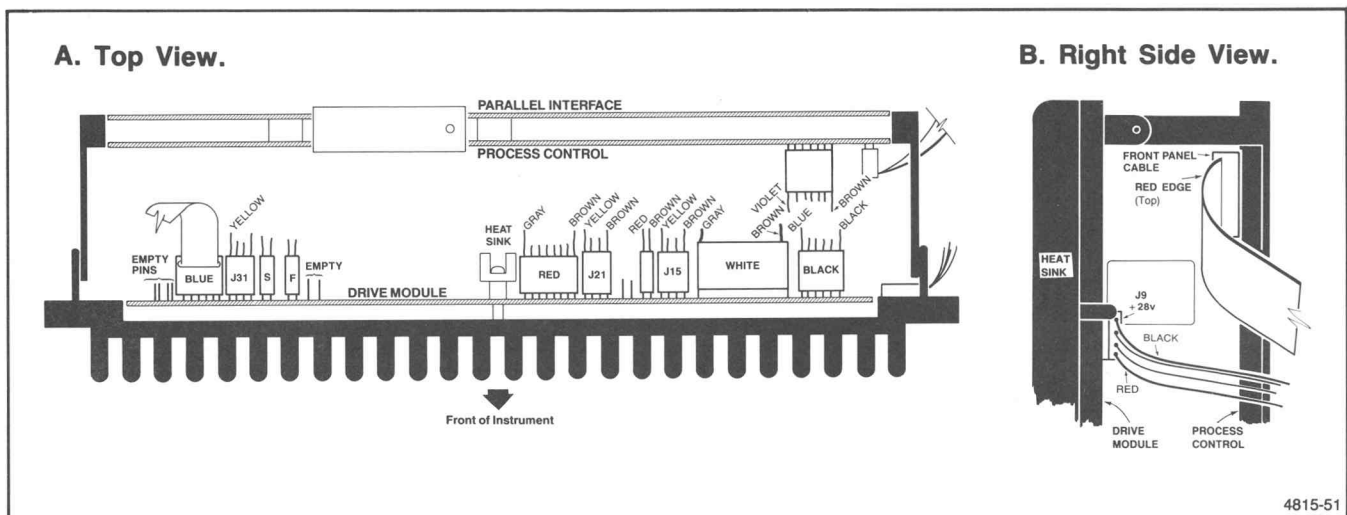

Figure 2-6. Cable Connections to the Drive Module.
- b. IF ANOTHER FUSE BLOWS, you know that the Drive Module circuit board is the problem. Replace the circuit board. Refer to Figure 2-6 for the correct placement of the cables.
3. Connect the cables (J11, J13, J21, J23, J27, and J29) to the Drive Module. If anything (copy counter for example) was connected to J25, remember to also reattach this cable — see Figure 2-6.